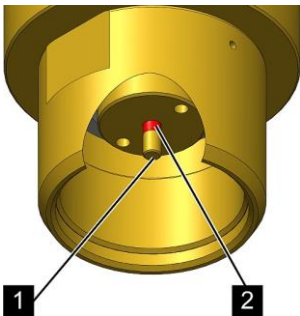

Fig. 87: Release pin
During test releases, do not reach into the area around the release pin (Fig. 87/1).
5. ► Check whether the red marking (Fig. 87/2) is visible on the release pin (Fig. 87/1).